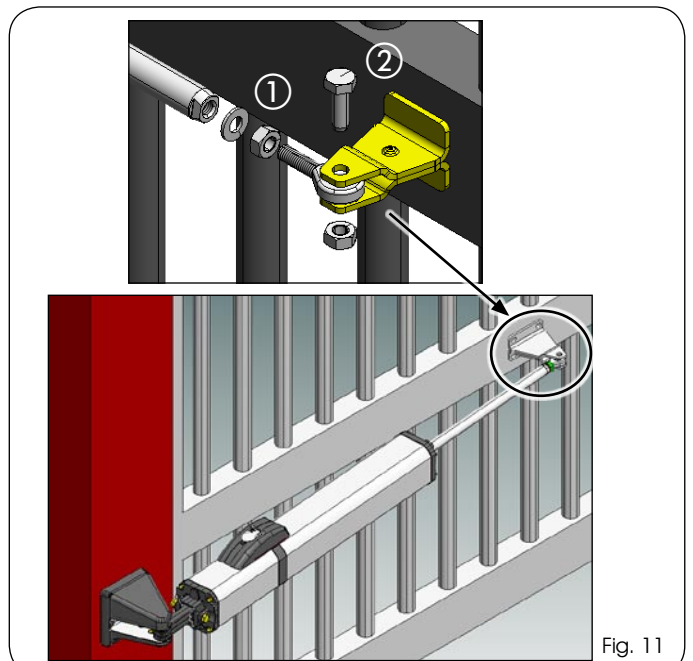

Fig. 11
6. Screw one-half of the thread of the front articulated joint on the operator rod and tighten the nut (Fig. 11 re. ①).
10. Close the gate leaf and install the front fitting on the rod as shown in Fig. 11 re. ②.